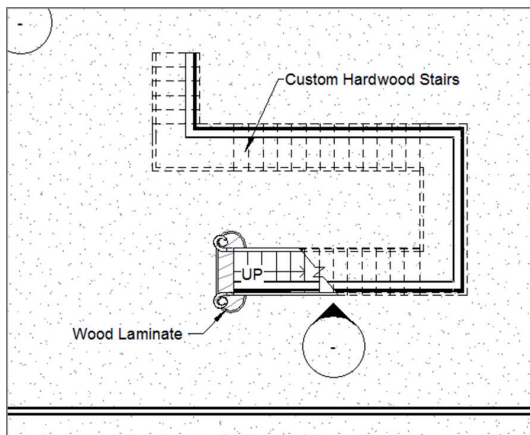

FIGURE BC1.12: Placing an interior elevation
2. Place an interior elevation, as shown in Figure BC1.12.